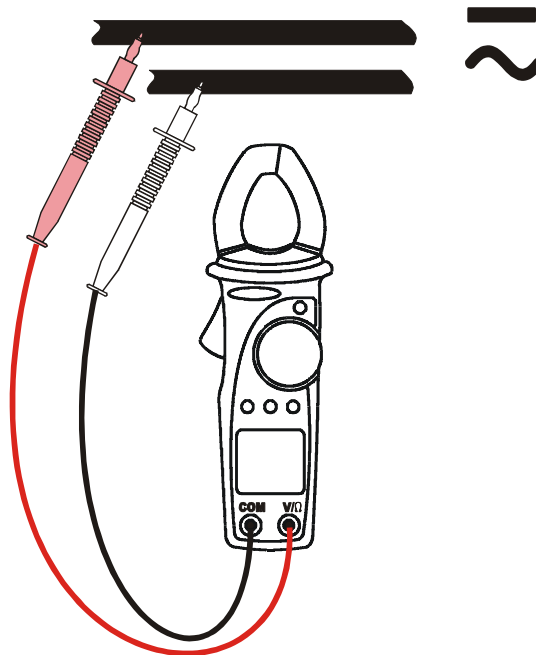

Fig. 4: Use of clamp for AC/DC voltage measures.
2. Insert the test leads into the jack, the red lead into "+" jack, and the black lead into the COM jack. Refer to Fig. 4.
4. Press R-H key you can select manually the measurement ranges in cyclic order. Press R-H key 2 seconds to return to the AUTOMATIC range selection.